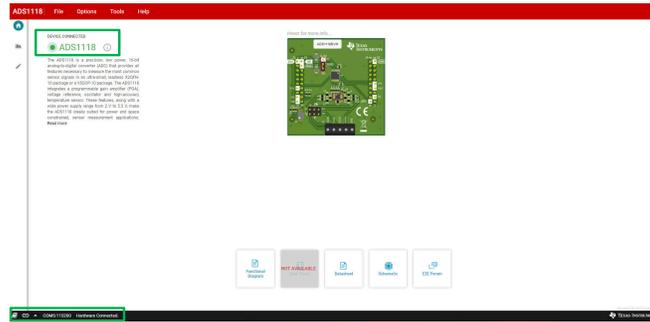

Figure 4-3. ADS1x18 EVM Connected GUI (ADS1118 shown)
4. Refresh the GUI. The GUI should connect to the hardware. A green signal displays, and the *Hardware Connected* indication shows on the bottom (see Figure 4-3).